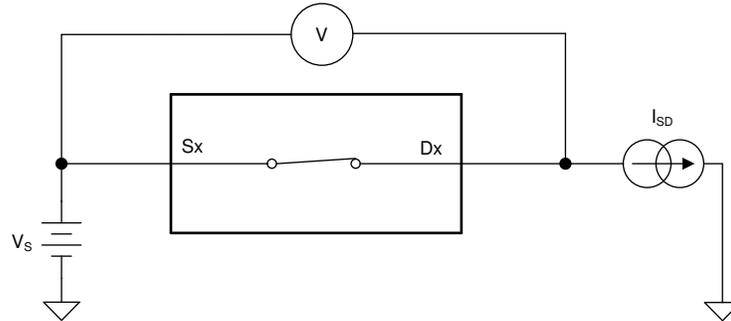

Figure 7-1. On-Resistance Measurement Setup
The on-resistance of a device is the ohmic resistance between the source (Sx) and drain (Dx) pins of the device. The on-resistance varies with input voltage and supply voltage. The symbol R_{ON} is used to denote on-resistance. The measurement setup used to measure R_{ON} is shown in Figure 7-1. Voltage (V) and current (I_{SD}) are measured using this setup, and R_{ON} is computed with $R_{ON} = V / I_{SD}$: